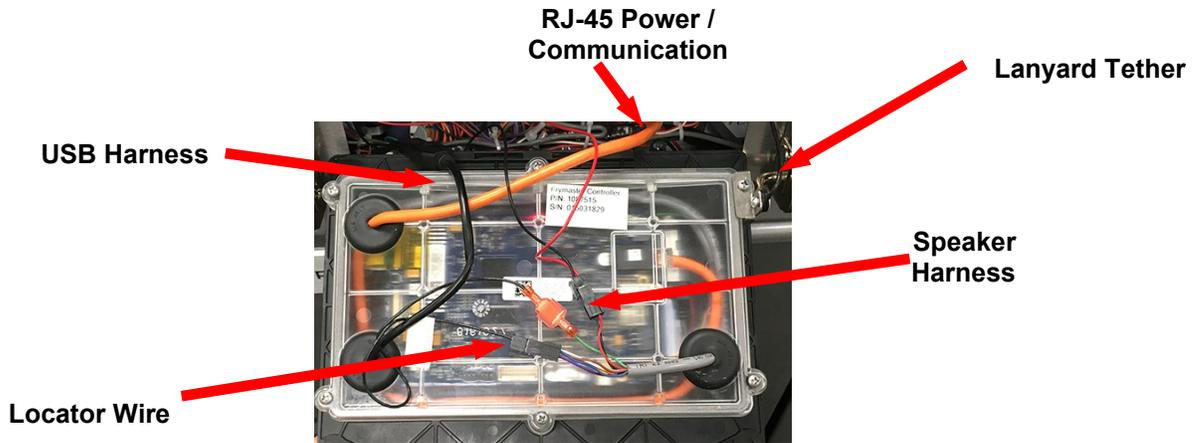

Figure 2
5. Disconnect the RJ45 cable from the SIB board **FIRST (see Figure 2).**